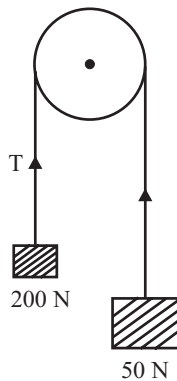

Fig 11.15
Q.21: Find the tension in the string and accelerations of blocks A and B weighing 200N and 50N respectively, connected by a string and frictionless and weightless pulleys as shown in fig 11.15.